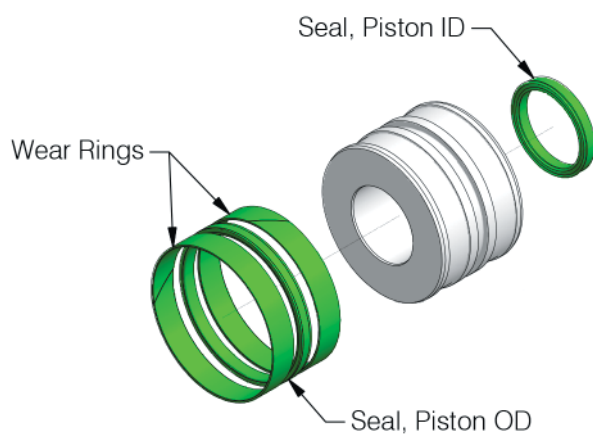
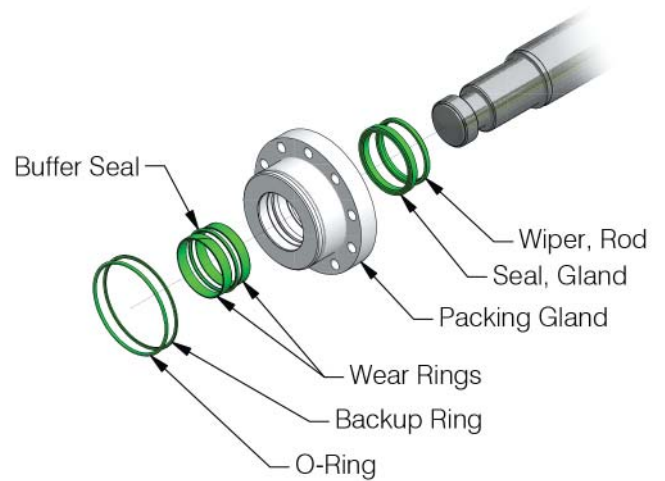

Figure 5 Remove Seals from Piston
Figure 6 Remove Packing Gland and Seals
2. Remove all seals in the piston and packing gland. See Figure 5 and Figure 6. Remove the old seals by cutting with a knife. Careful heating with a flame will soften the seal, making the removal easier.